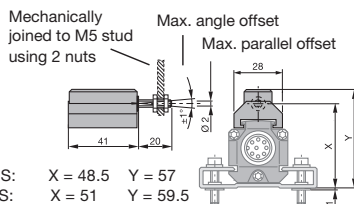

Fig. 3-7: BTL5-M/N-2814-1S magnet
**BTL5-M-2814-1S** Fig. 3-7
**BTL5-N-2814-1S** Fig. 3-7